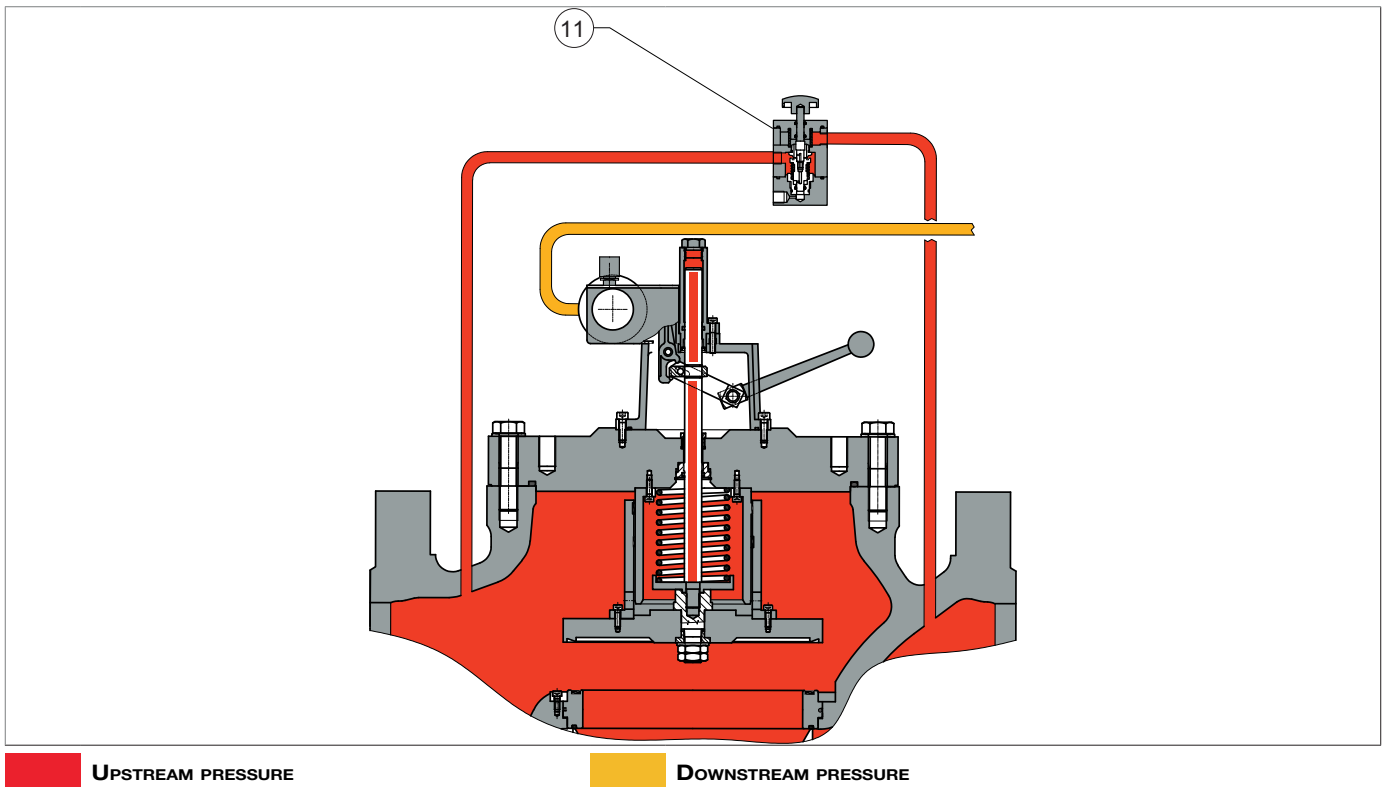

Fig. 4.2. HP2/2 bypass detail for slam-shut valve SBC 782 10"
**For the 10" version, bypassing must be performed using the HP2/2 bypass device (Fig. 4.2, ref. 11).**